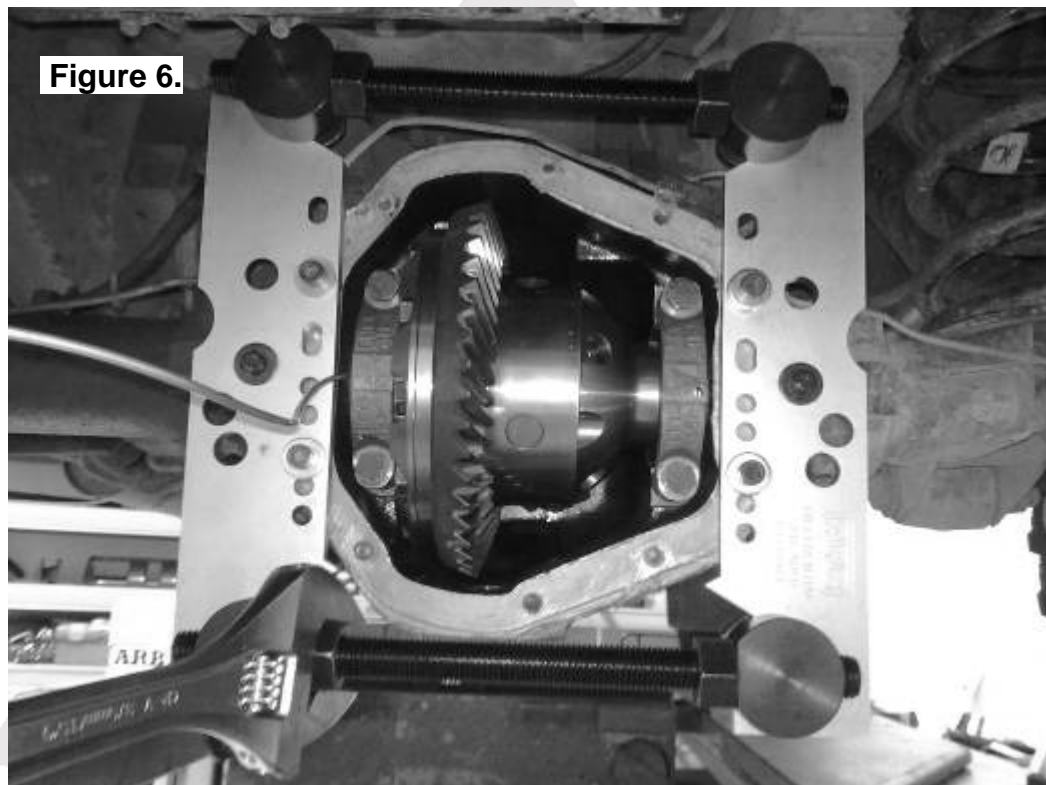

Figure 6.
Carefully spread the housing (Fig.6.) enough to remove the differential center. (Refer to your vehicle's service manual).
- Carefully spread the housing (Fig.6.) enough to remove the differential center. (Refer to your vehicle's service manual).